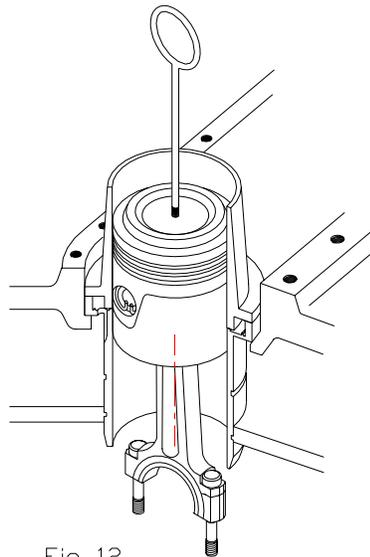

Fig. 12
- a) Place the piston ring guide tool on the cylinder liner (Fig. 12), ensure that the upper half bearing, connecting rod bolts and eye bolt are fitted to the piston assembly and lower the piston assembly into the cylinder liner using liberal quantities of lubricating oil.